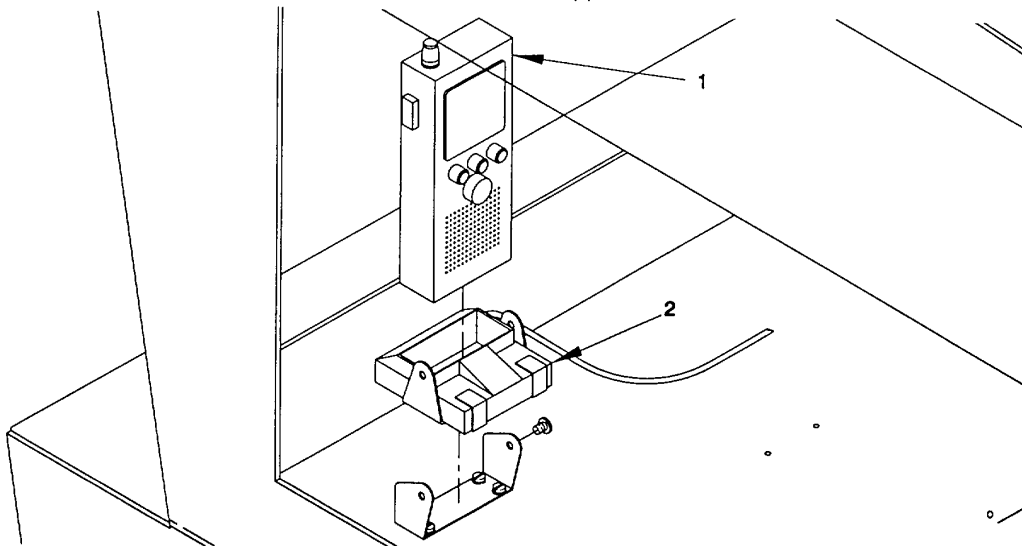

Figure 2-100. Receiver/Transmitter (Triton), Remove/install.
a. *Remove.* (figure 2-100)
- (1) Remove receiver/transmitter (1) from battery charger (2).
- (2) If removing charger (3), disconnect electrical wiring at the A3 panel and remove through grommet near compass on control console. Refer to Appendix G for electrical wiring information.
b. *Install.* (figure 2-100)
- (1) If installing new wiring, thread it through the grommet in the control console to the charger (3).
- (2) Install new receiver/transmitter (1) in battery charger (2).
- (3) Connect electrical wiring in accordance with Appendix G.